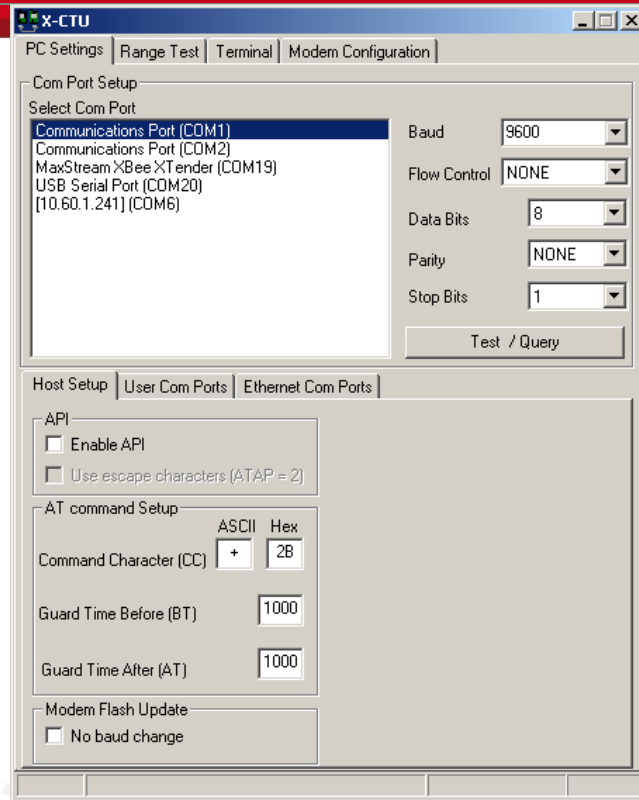

Figure 3
When launched, you will see four tabs across the top of the program (see Figure 3). Each of these tabs has a different function. The four tabs are:
- 3: Enable the API option of the X-CTU on the PC Settings tab and connect the base radio to the PC (See Figure 3).
- 2: Set the PC Settings tab (see Figure 3) to the radio's default settings.